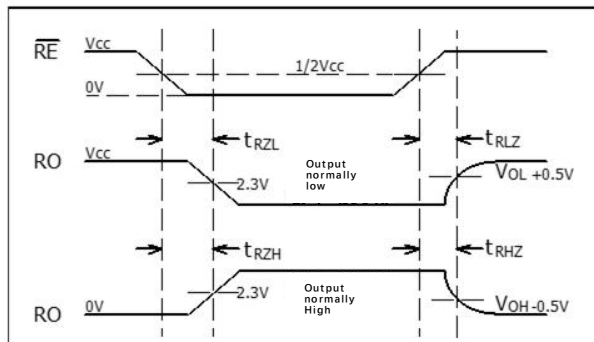

Figure 9 Receiver Enable and Disable Times
- (9) Test circuit is shown in Figure 9